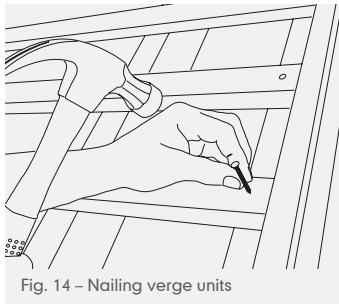

Fig. 14 – Nailing verge units
- 6 Secure the verge extrusion by driving annular ring shank nails through each tiling batten (40mm from the end) into the extrusion (Fig 14). Alternatively, fix with masonry nails, drill out, then plug and screw to top of gable (if brickwork).